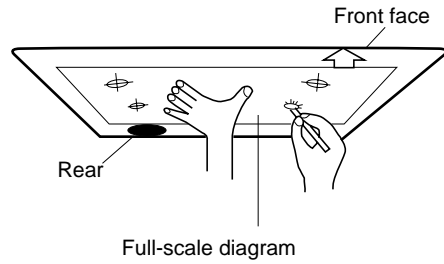

Fig. 3-1
- (1) Place the full-scale diagram (accessory) on the ceiling at the spot where you want to install the indoor unit. Use a pencil to mark the drill holes. Refer to Figs. 3-1 to 3-3.
- (1) When placing the unit inside the ceiling, determine the pitch of the suspension bolts using the provided full-scale installation diagram. (Fig. 3-1)